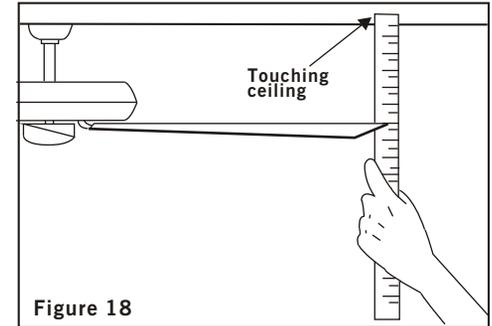

Figure 18
2. Most fan wobbling problems are caused when blade levels are unequal. Check this level by selecting a point on the ceiling above the tip of one of the blades. Measure this distance.(Fig. 18) Rotate the fan until the next blade is positioned for measurement. Repeat for each blade. The distance deviation should be equal within 1/8".